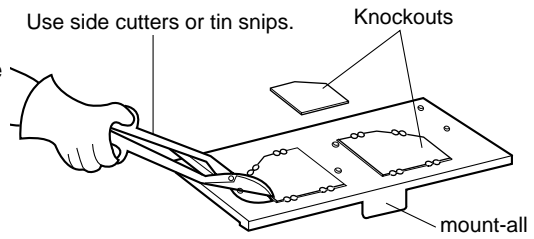

Figure 13
5. Use side cutters or tin snips to cut and remove knockouts from mount-all. Be careful not to distort the plate. See figure 13.